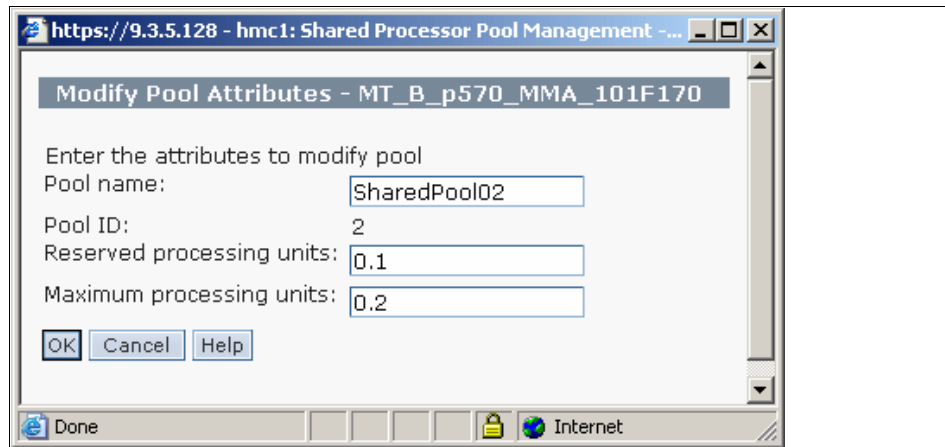

Figure 6-2 Modifying Shared Processor pool attributes
4. Enter the maximum number of processing units that you want the logical partitions in the shared processor pool to use in the Maximum processing units field. If desired, change the name of the shared processor pool in the Pool name field and enter the number of processing units that you want to reserve for uncapped logical partitions in the shared processor pool in the Reserved processing units field (Figure 6-2 on page 245). (The name of the shared processor pool must be unique on the managed system.) When you are done, click **OK**.